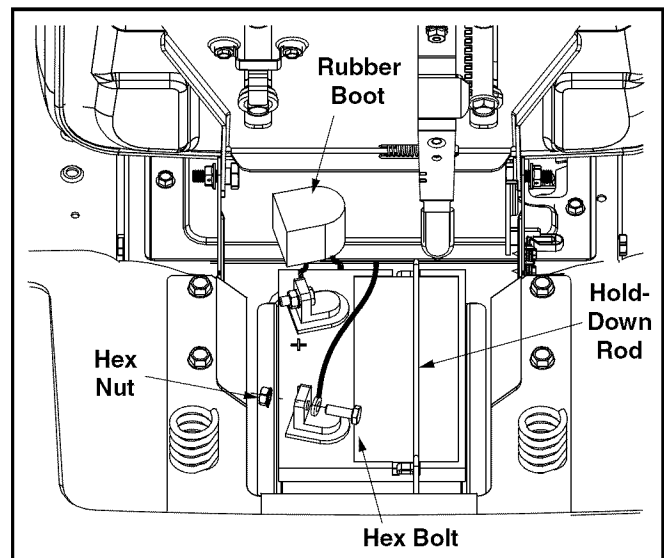

Figure 6
- Make certain the hold-down rod is in position over the battery, securing it in place. See Figure 6.